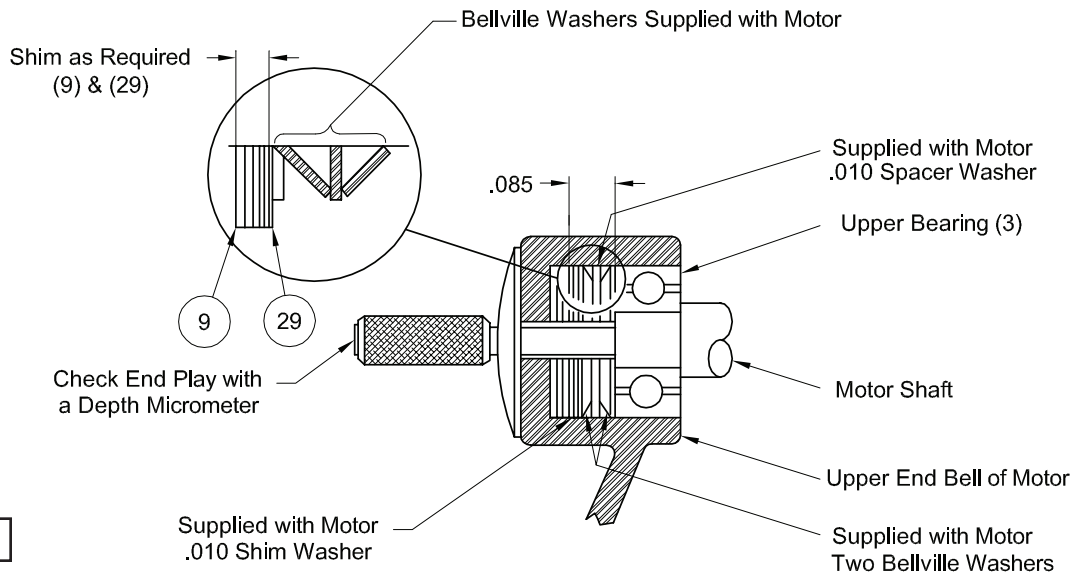

FIGURE 3
Measure distance with micrometer from the top surface of the motor cover to the end of the shaft. See Figure 3. Temporarily set the partially assembled unit on the lower end of the shaft, causing the bearings to slide up in the bearing retainer. When the bearings bottom securely, again measure the distance from the top surface of the motor cover to the end of the shaft. This difference should be between .015 to .030 inches. If the end-play is within these tolerances, proceed with reassembly. If the end-play is not within the above listed tolerances, the motor upper end bell must be disassembled and sufficient .010 shims (9) must be added or removed as required. Reassemble and recheck again for the required listed end-play tolerance.